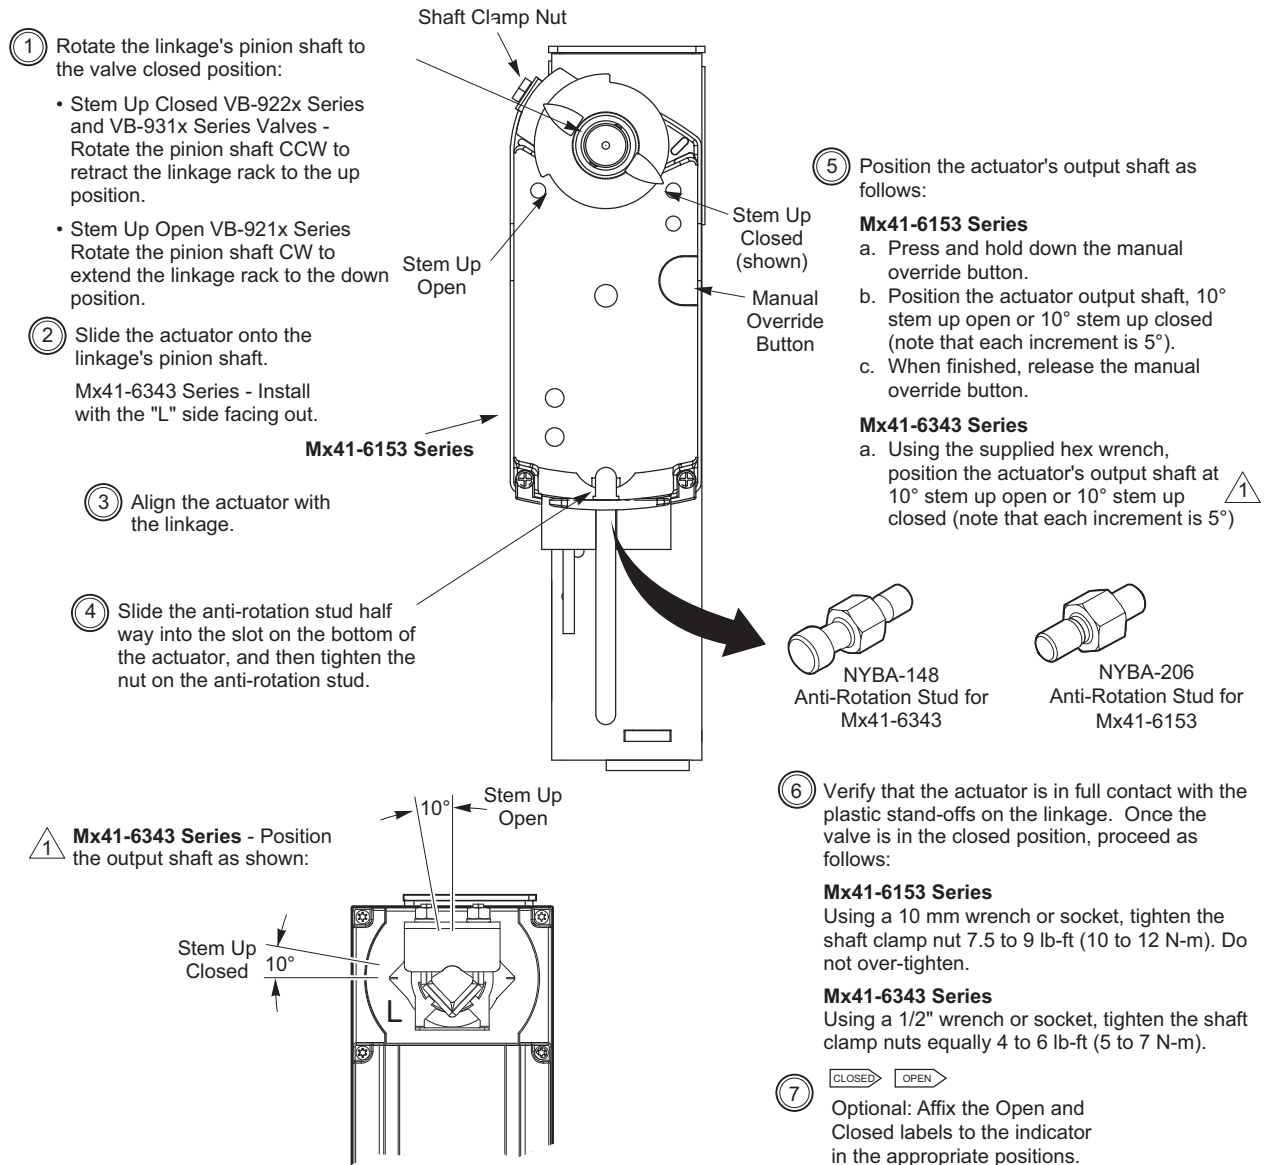

Figure-13 Mounting Mx41-6153 Series or Mx41-634x Series Actuators and Setting Up Actuator/Linkage Valve Assembly
- a. Install the actuator onto the linkage and valve, and set up the assembly, according to Figure-13.